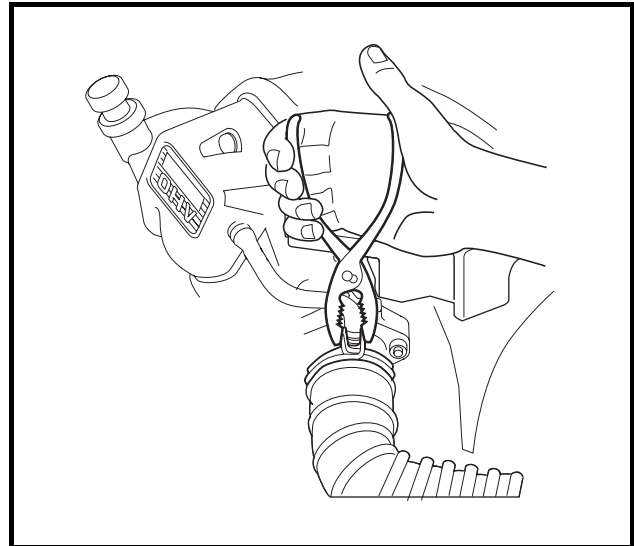

Figure 16-10 Air Intake Hose
- 4.2. Disconnect the air intake hose from the carburetor (**Figure 16-10, Page 16-7**).